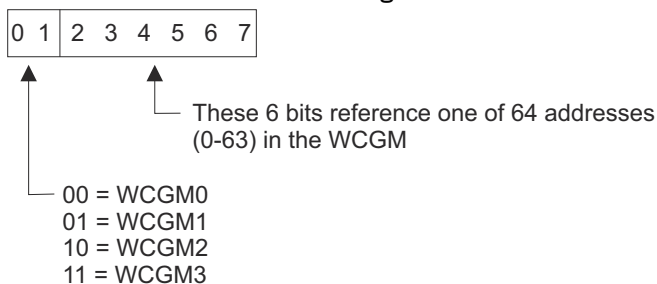

Figure 34. Module structure of the character arrangement table
- Bits 0 and 1 of each translation table byte refer to one of four WCGMs and bits 2 through 7 point to one of 64 addresses (0-63) within the WCGM. If SETPRT loads a character set into a WCGM other than the WCGM called for, SETPRT, using a copy of the translation table, alters bits 0 and 1 of each non-X'FF' byte of the translation table to correspond with the WCGM loaded. Figure 34 on page 158 describes the structure of the character arrangement table module.